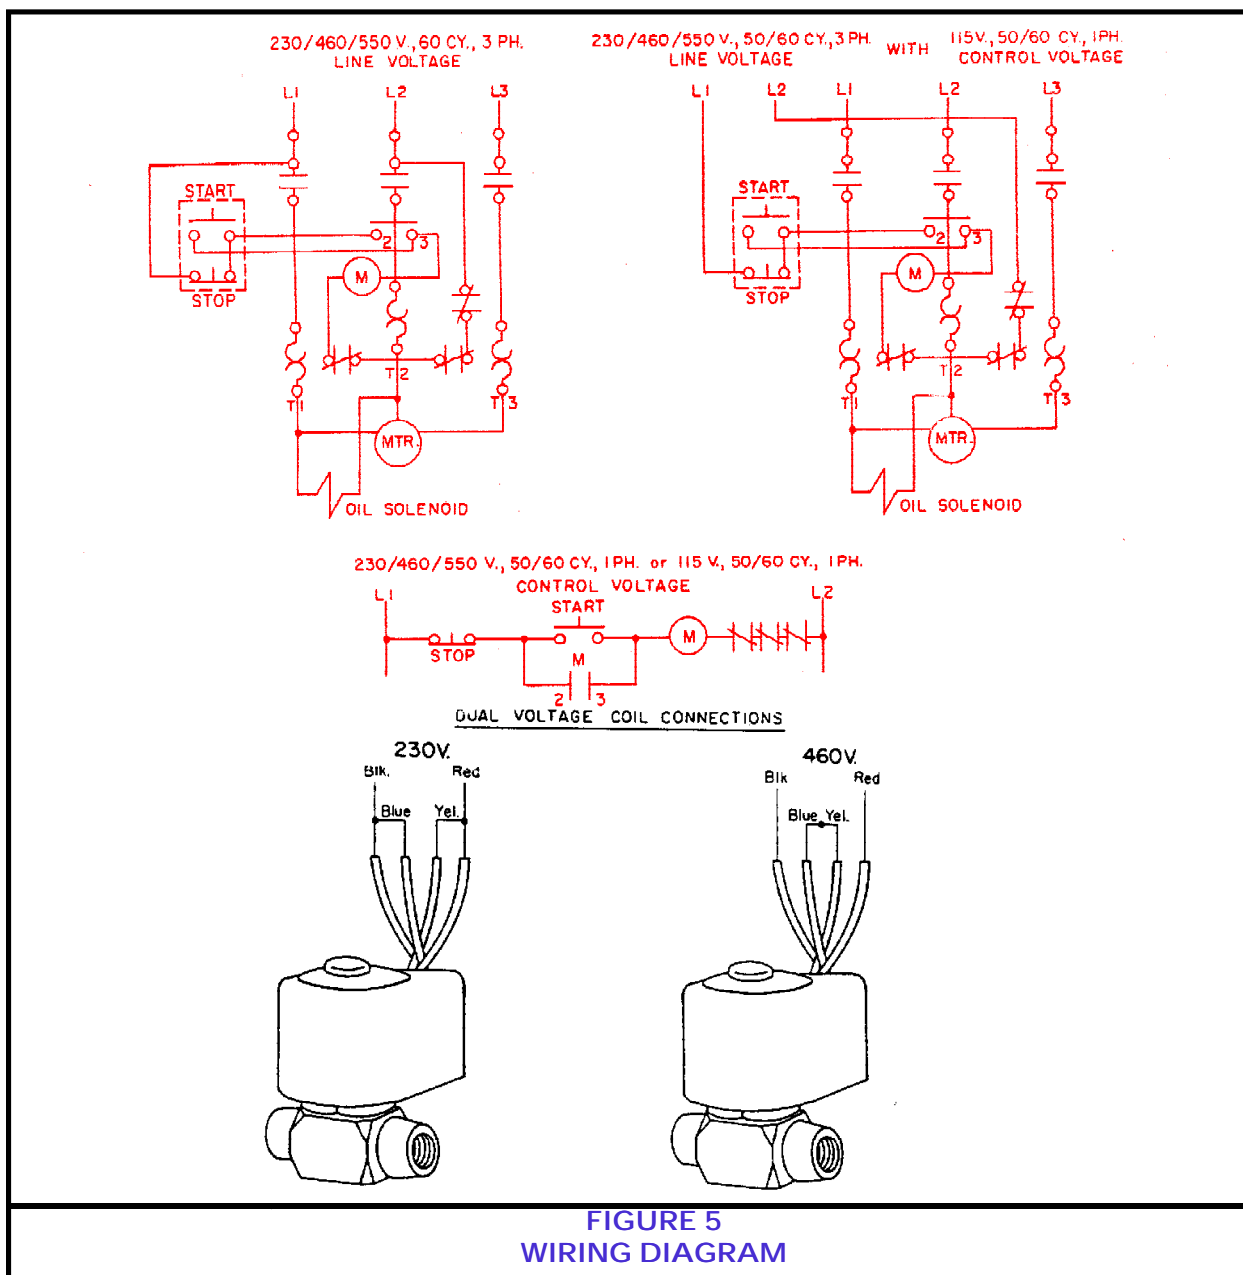

FIGURE 5
2.4 ELECTRICAL CONNECTIONS (See Figure 5)
- 2.4.2 Connect the solenoid valve as in Figure 5.